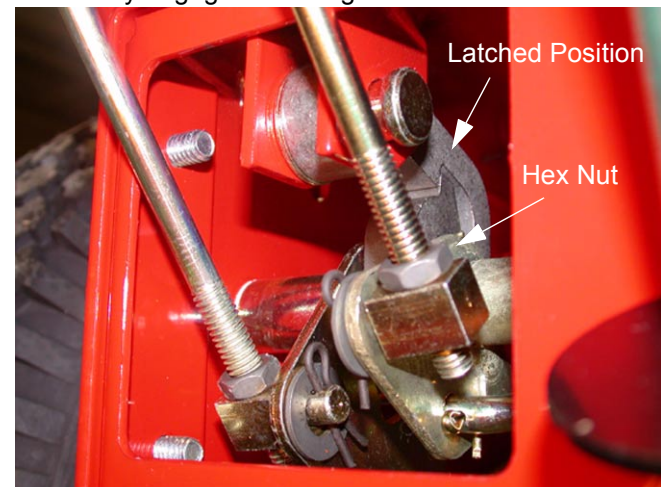

Figure 13
- 4.2. Without releasing the controls, look inside the cutout at the left rear of the frame and make sure that the operators presence control latches are fully engaged. See Figure 13.
- 4.4. Loosen the hex nut and shorten the rod by one or two turns. (Do not over adjust.) Tighten the hex nut securely. See Figure 13.